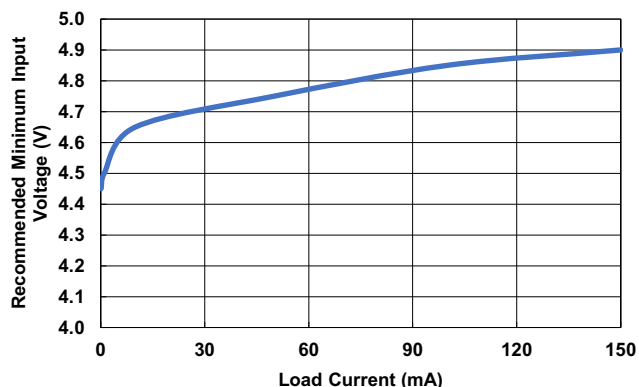

Figure 19. Recommended Minimum Input Voltage (V)
- Minimum supply voltage at 150mA load. See Figure 19 for the minimum supply voltage at other loads.
The RAA214401 operates over a wide input voltage range up to 40V. Depending on the load current, the recommended minimum supply voltage can be found in Figure 19.